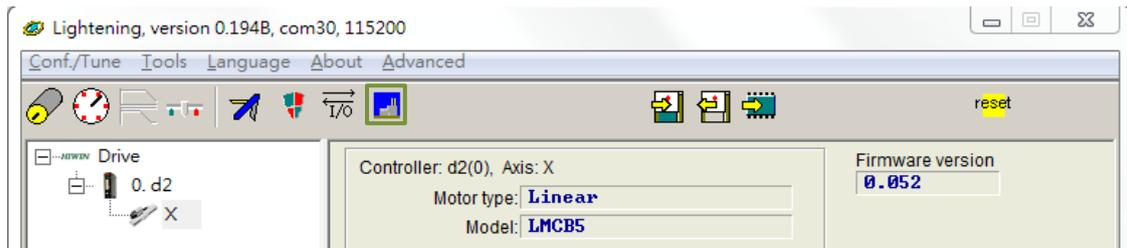

Figure 12.2.1
Step 1. Click the icon () shown in Figure 12.2.1 to open the “PDL” window.